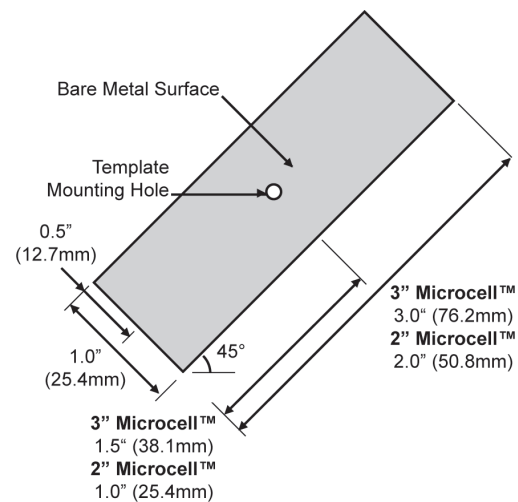

Figure 4-6. Prepared Mounting Surface.
1. See Figure 4-6. At the center of the Microcell™ mounting location, drill all the way through the web with the #29 drill bit. This produces the template mounting hole.
2. See Figure 4-6. Mark the surface preparation area for Microcell™ A. Repeat for Microcell™ B on the other side of the web.